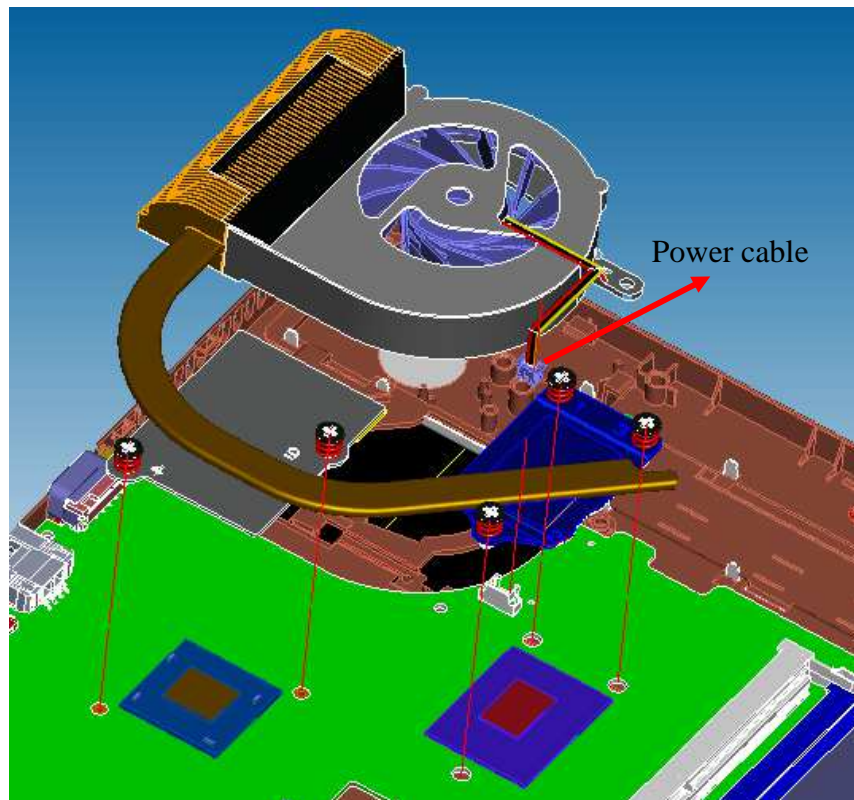

Figure 4-9-3 Release the screws on the thermal pad of CPU and VGA
4. Release the screws on the thermal pad of CPU and VGA in turn. (See Figure 4-9-3)
5. Disconnect the power cable from the system board. (See Figure 4-9-3)
6. Remove the thermal module from system board. (See Figure 4-9-3)